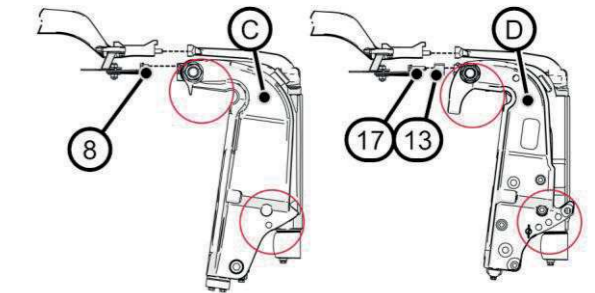

Fig. 4: Transom bracket
1. Align the tiller so that the threaded pin (9) is in the centre of the friction plate.
2. Hand-tighten both hexagon screws (8) on the friction bracket.
3. Turn the friction lever (11) to the left until it stops.
4. Hand-tighten the hexagon nut (16).
5. *In the case of a current transom bracket (Fig. 4, C):* Insert the 2 shorter hexagon head screws (8) with the washers (7) in place through the holes in the friction plate (14) and screw them completely into the threaded holes on the transom bracket.
6. *In the case of an older transom bracket (Fig. 4, D):* Insert spacer (13) between friction plate (14) and threaded holes on transom bracket and hold it in place.
7. *In the case of an older transom bracket (Fig. 4, D):* Insert the 2 longer hexagon screws (17) with washers (7) in place through the holes in the friction plate (14) and the spacer (13), apply threadlocker to the threads according to the manufacturer's instructions and screw the hexagon screws completely into the threaded holes on the transom bracket.
9. Align the friction bracket (6) so that the threaded pin (9) is centered in the guide of the friction plate (14).
10. Tighten both hexagon screws (8) on the friction bracket to a torque of 6 N·m.
11. With the friction lever (11) in the left position, tighten the hex nut (16) until the maximum desired resistance is set.
12. Turn friction lever (11) to the right and check that the tiller moves easily.
13. *If the tiller does not move easily:* loosen the hex nut (16) and adjust the maximum resistance.